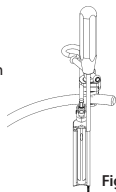

Figure 16
- Choose **ATP Screws** (UL-0360 to UL-0378) based on blade length, use **Lateral Screw Driver** (such as ML-0055) to screw into vertebral body. Screw should go into a cannulation on the **Cannulated ATP blade**. (Figure 16)